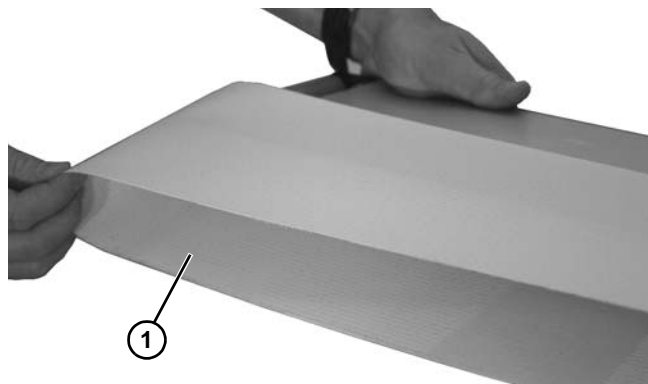

Figure 34
4. Remove belt (**Figure 34, item 1**) from conveyor.